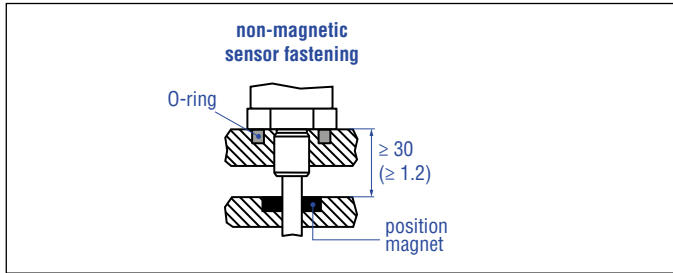

Fig. 16: Installation with magnetic material
1. A sealing by using an O-ring (e.g. 22.4×2.65 mm) in a cylinder bottom groove (fig. 16).